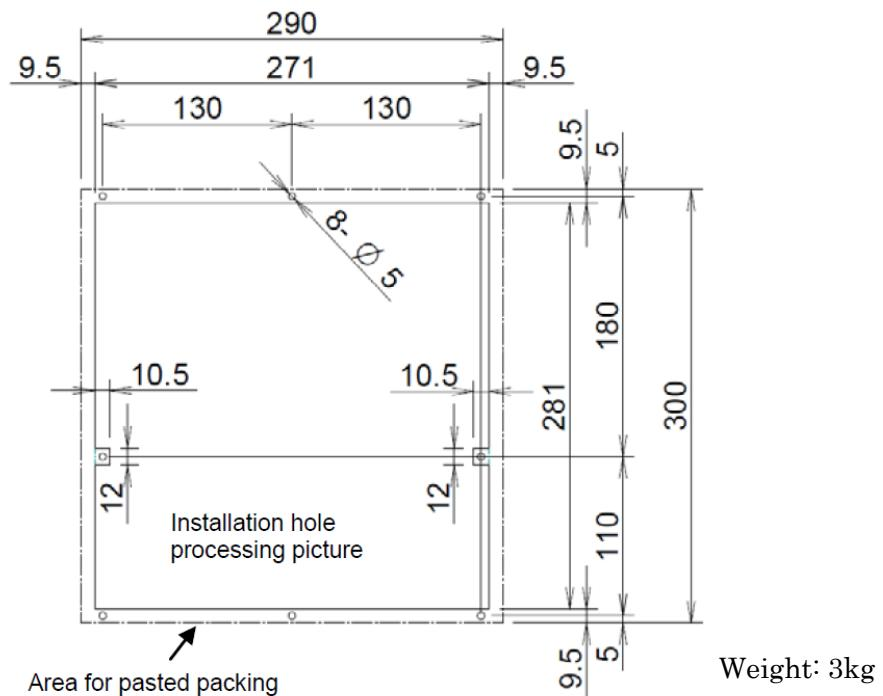

Fig. U14 10.4" LCD/MDI unit(Vertical) ④
10.4" LCD/MDI unit(Vertical)	Fig. U14
10.4" LCD/MDI unit B(Vertical, with touch panel)	Fig. U14